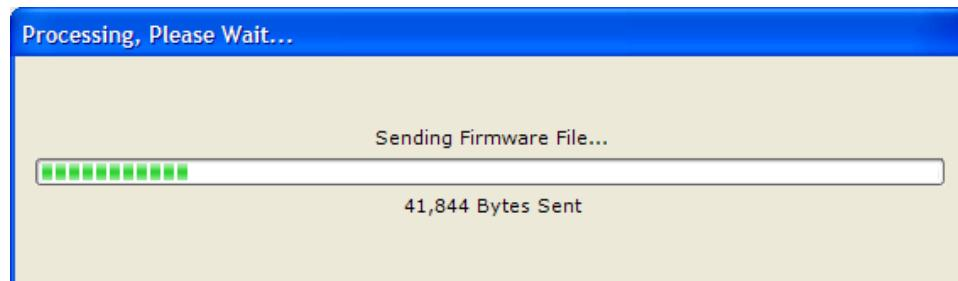

Figure 4-76. Processing, Please Wait...
10. The *Processing, Please Wait...* screen is displayed as file(s) are uploaded. See Figure 4-76.